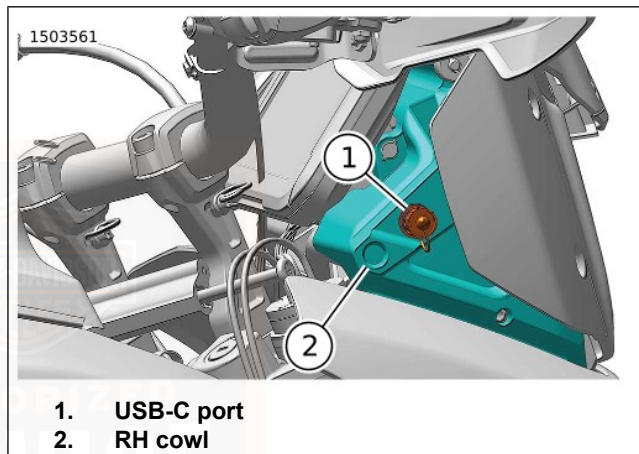

Figure 42. USB-C Port
See Figure 42. The motorcycle has a USB-C port for charging a phone or media device and software update data transfer. Use an interface cable to connect with these devices. The USB-C port is powered and operational when the vehicle is turned on or in accessory mode.
See Figure 42. USB-C port (1) is located in the Right Hand (RH) cowl (2).